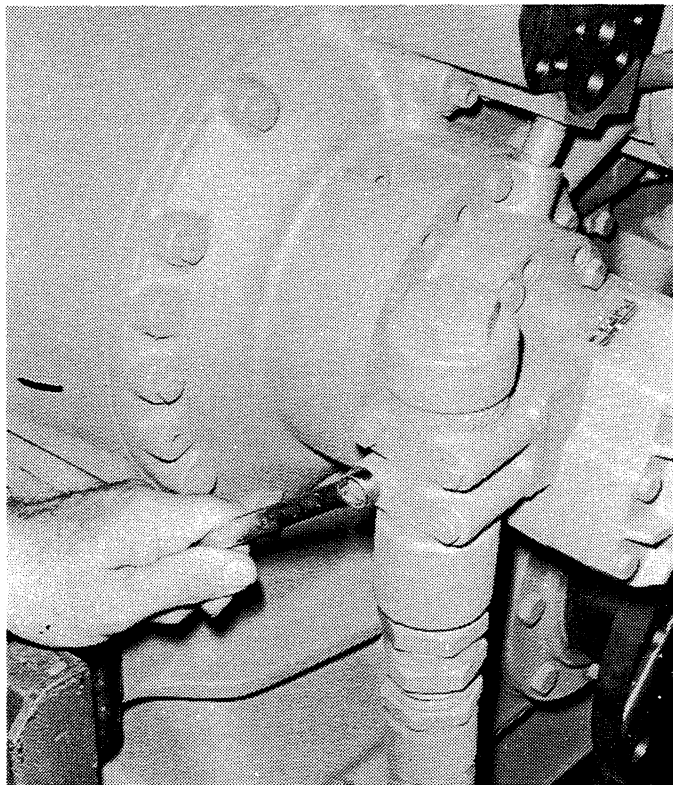

Figure 6-2. *Removing or Installing Oil Strainer Assembly.*
2. Remove four hex-head screws (see Figure 6-2) and disconnect the oil strainer housing and flexible hose from the oil pump.